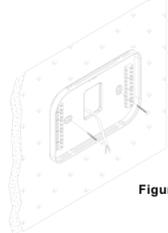

Figure 1
- Mount the base to the wall using the two #6 x 1/2" self-tapping screws supplied - See Figure 1.